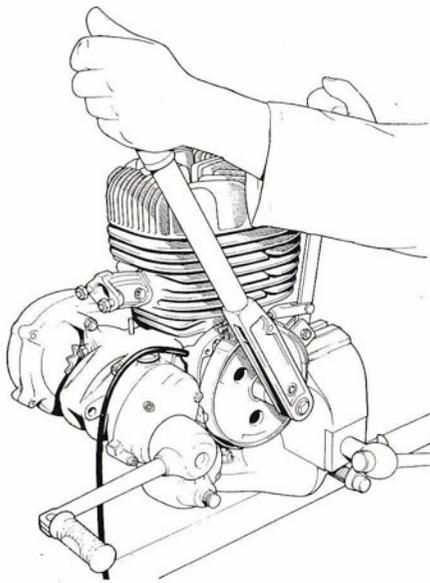

Fig. 9 Removing flywheel center nut – note use of strap wrench to prevent flywheel rotation.
- 10 Using a socket or box end wrench (ring spanner) on the flywheel nut (we do not recommend using an open-ended spanner on this highly tensioned nut), slacken the nut in the normal anticlockwise direction. After initial slackness, continue to turn anticlockwise until further resistance is felt – the extractor is now functioning and by continuing to turn the nut in the same direction the flywheel will be withdrawn. (see Fig. 9.)